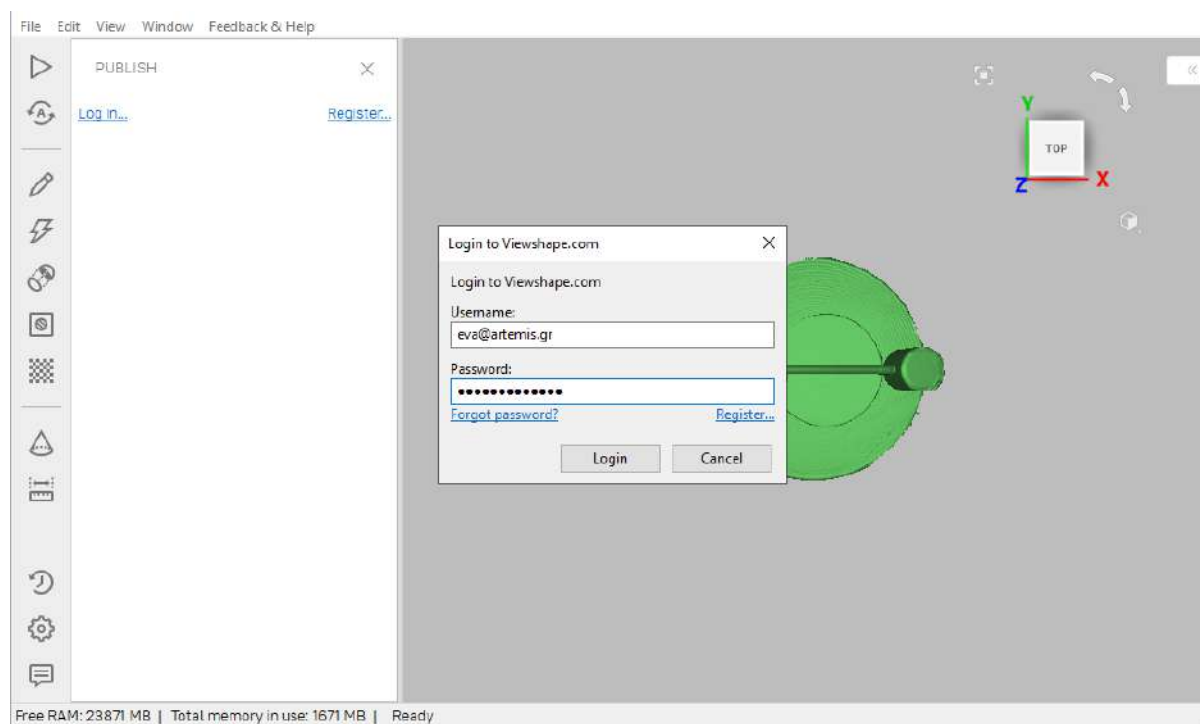

Figure 133: Viewshape.com login window.
4. Specify your my.artec3d email and password in the window that opens (see Figure 133).